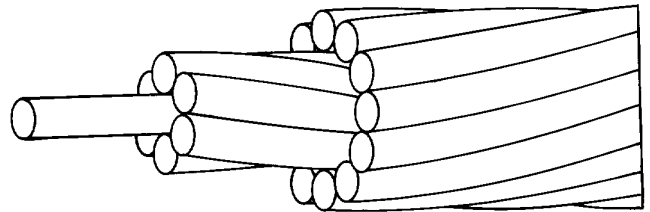
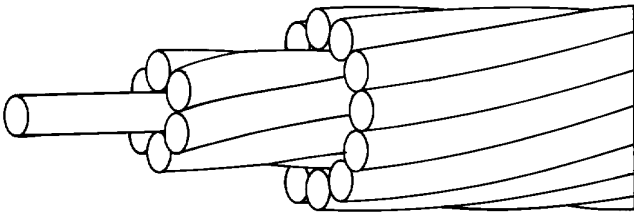
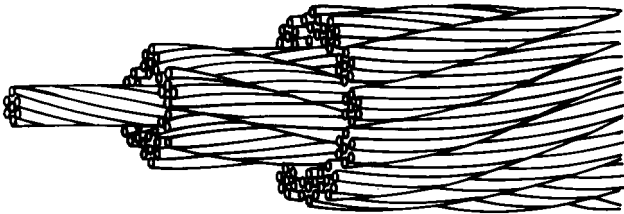

Figure 4. True Concentric and Equilay Stranding
Figure 5. Unidirectional Concentric and Unilay Stranding
Figure 6. Rope Stranding
(3) True Concentric Stranding is composed of a central wire surrounded by one or more layers of helically laid wires, with a reversed direction of lay, and an increased length of lay, for each successive layer (Figure 4).
(4) Equilay Stranding is composed of one or more helically laid wires, with a reversed direction of lay of the same length, for each successive layer.
(5) Unidirectional Concentric Stranding is composed of a central wire surrounded by one or more layers of helically laid wires, with the same direction, and an increased length of lay for each successive layer (Figure 5).
(6) Unilay Stranding is composed of more than one layer of helically laid wires, with the same direction of lay of the same length, for each successive layer.
(7) Rope Stranding is composed of groups of any of the above strandings combined in concentric configurations (Figure 6).